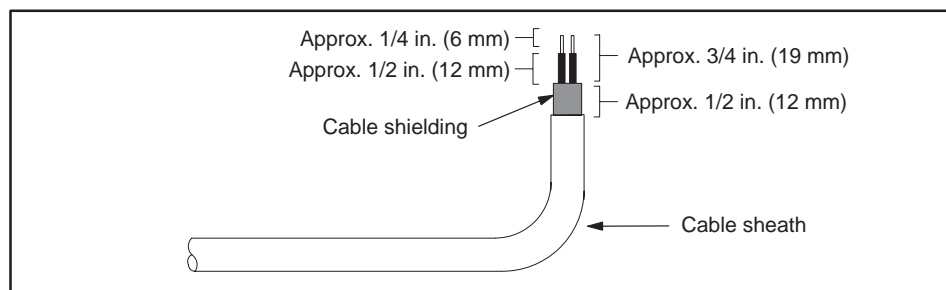

Figure 3-9 Stripping the Wires
3. Remove 1.25 inches (30 mm) of the cable sheath to expose the shielding below. See Figure 3-9.
To ensure that the connection is properly grounded, you must leave enough exposed cable shielding (0.5 inches, 12 mm) to make a proper contact with the metal cable guide on the connector. See Figure 3-9.